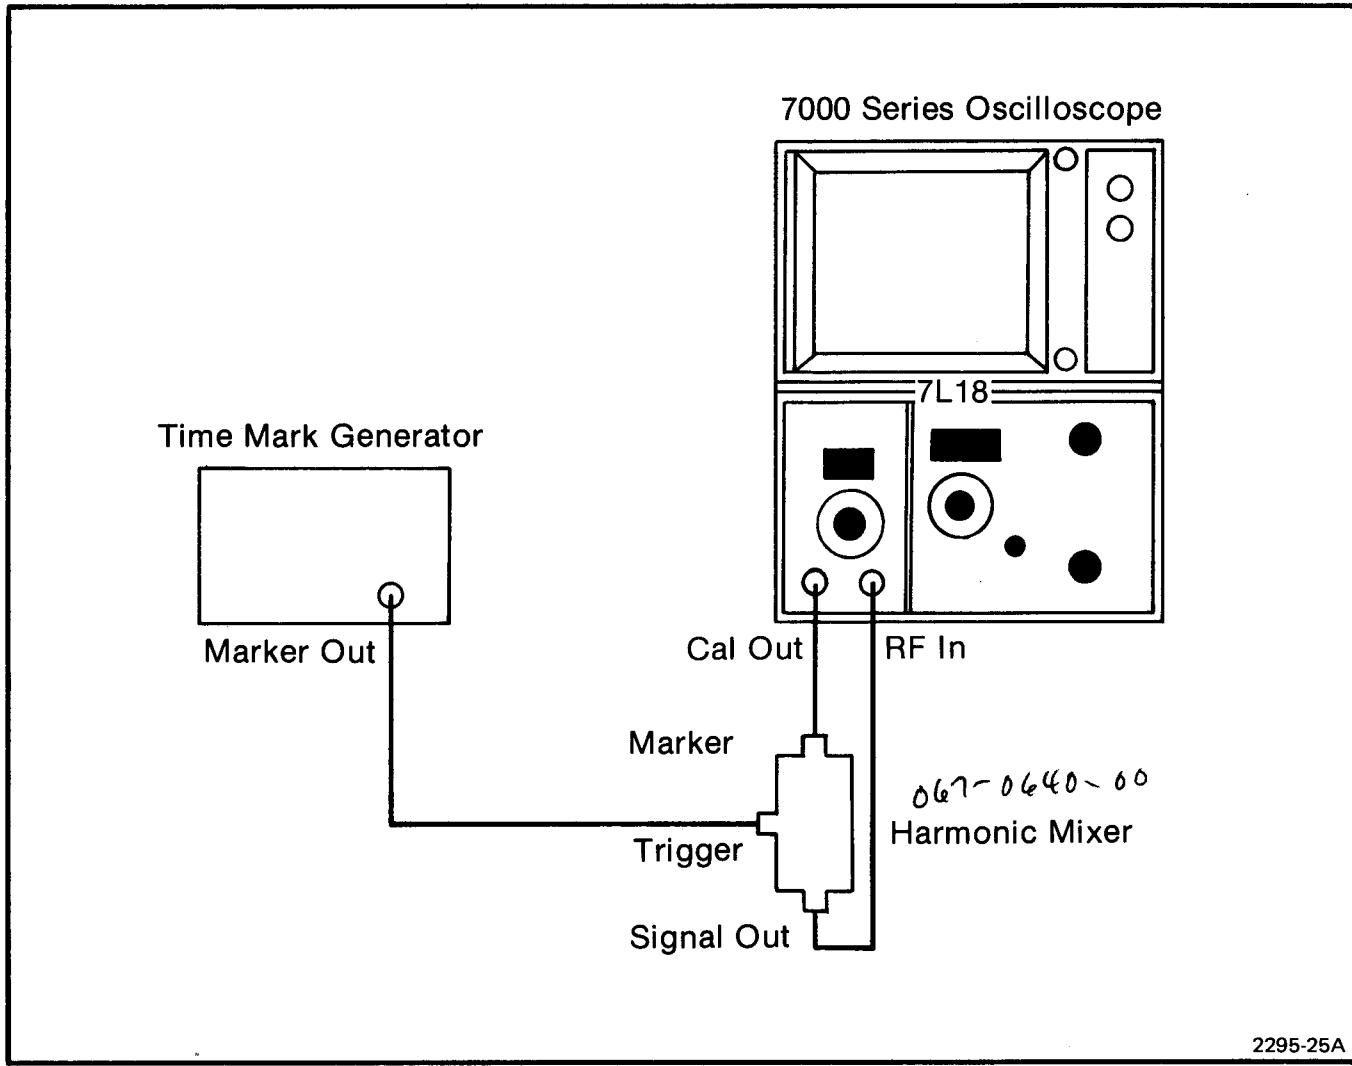

Fig. 4-17. Freq. Span/Div Test Setup.
- a. Connect the test setup as shown in Fig. 4-17. Set the 7L18 front-panel controls as follows: